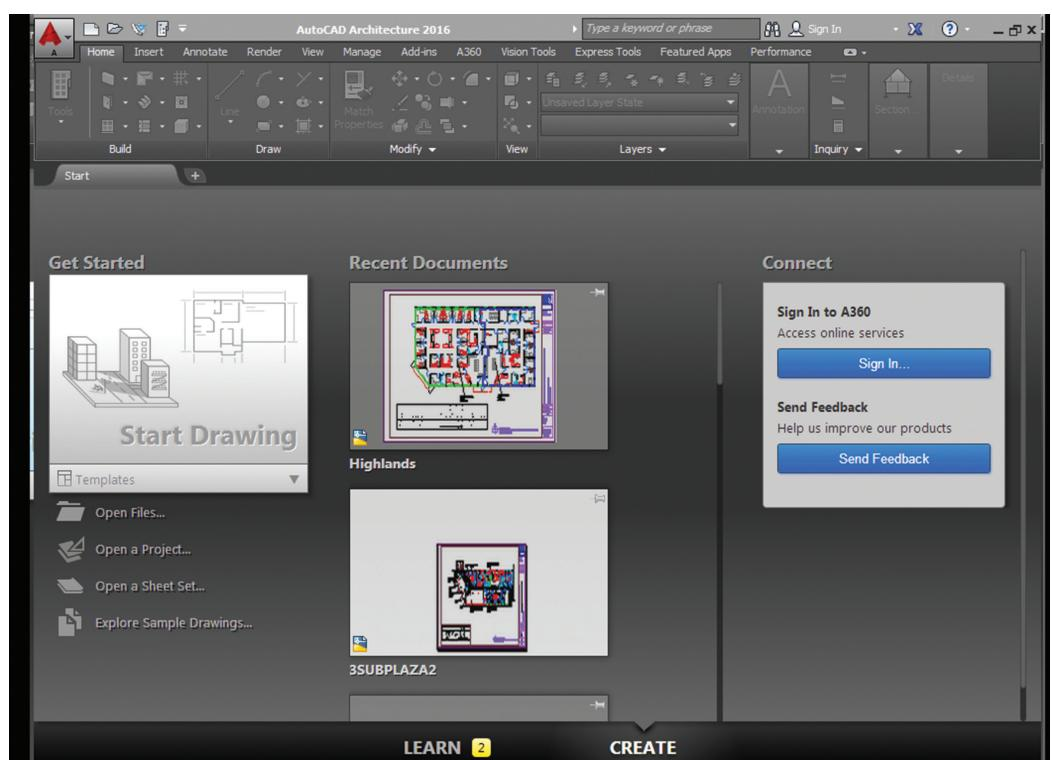

Figure 1: Start tab
**W**hen you start the program, open a new tab (+), or close the last drawing, a Start Tab is displayed (see Figure 1). Each Start tab (formerly the New tab) contains the Create Page and the Learn Page.